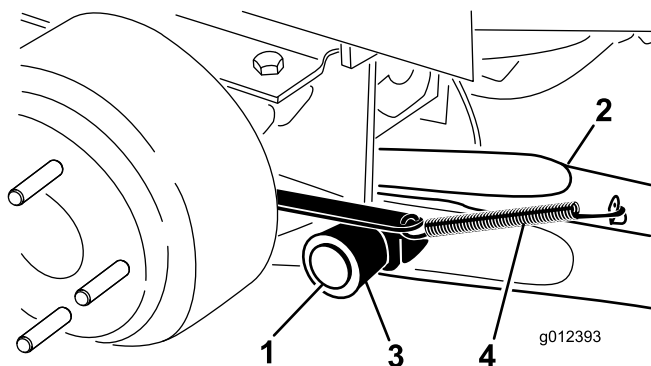

Figure 3
6. Mount a lift arm to the pivot bracket with a pivot pin and a cotter pin (Figure 3). Mount the lift arm with the bend positioned outward.
- Hook the brake return spring to the tab on the lift arm (Figure 3).